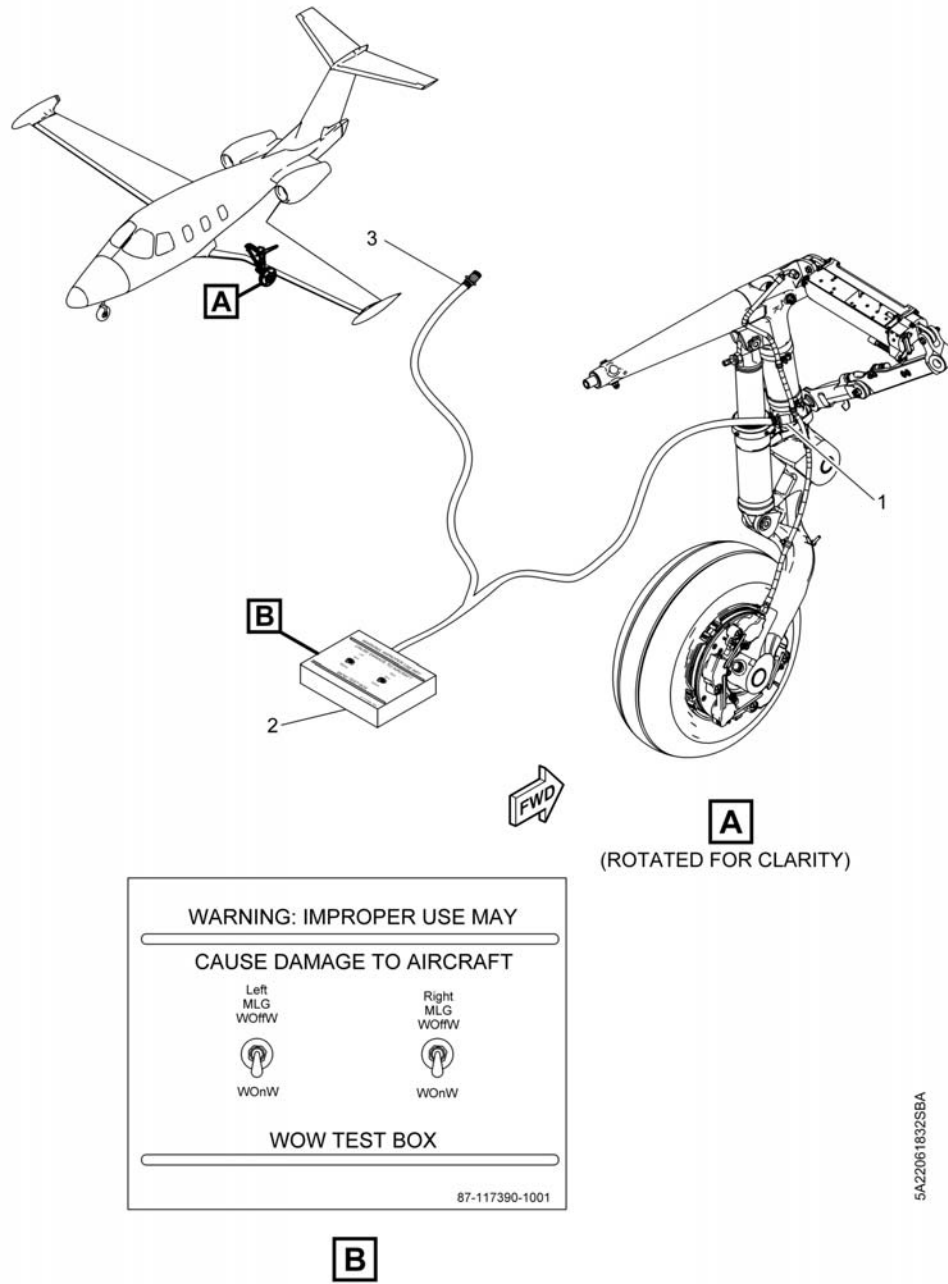

FIGURE 1
- (3) Left Angle of Attack Test
- Disconnect electrical connectors 32A07P01 (left) (1, Fig. 1) and 32A08P01 (right) (3, Fig. 1) from WOW proximity sensors on left and right landing gear.
- Connect WOW Box (2, Fig. 1) to electrical connectors 32A07P01 (left) (1, Fig. 1) and 32A08P01 (right) (3, Fig. 1) on the landing gear.
- q. Disconnect the WOW Box (2, Fig. 1) as follows:
- Disconnect WOW Box (2, Fig. 1) from electrical connectors 32A07P01 (left) and 32A08P01 right) on left and right landing gear.
- Connect electrical connectors 32A07P01 (left) (1, Fig. 1) and 32A08P01 (right)(3, Fig. 1) to WOW proximity sensors on left and right landing gear.
- (5) Pitot/AOA Probe Heat Test